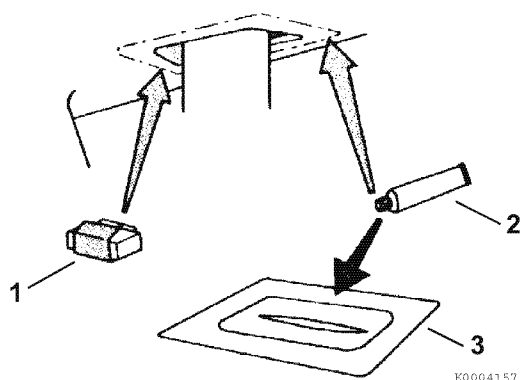
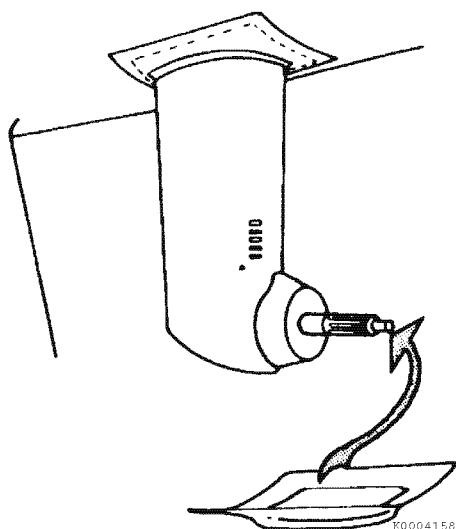

Figure 22
Figure 23
14. Clean the lower shield mounting area with sandpaper (1, Figure 22) to ensure a good bond.
15. Apply a suitable adhesive (2, Figure 22) to the rubber gasket (3, Figure 22) and secure in place (Figure 23).